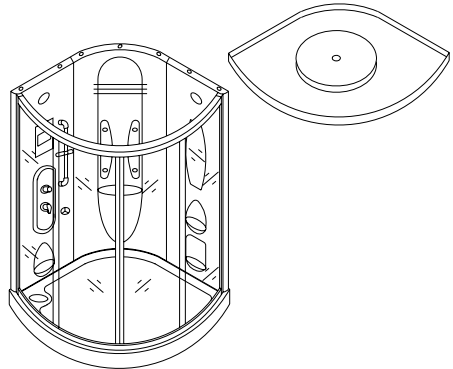

Fig.11.
7. Install the top cover: put cover onto the body, fix with M6x30 screws; fix cover and top guide rail with ST4x16. Fig.11.